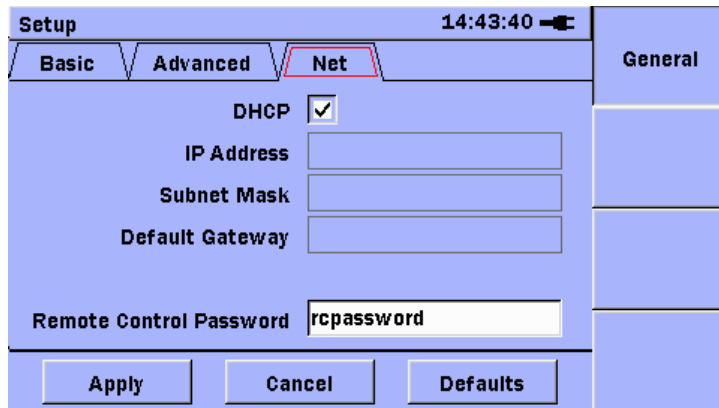

Figure B.1-2 Net Tab (DHCP On)
1. Highlight the **DHCP** check box as shown in Figure B.1-2 and press the **Set** key so the box is selected.